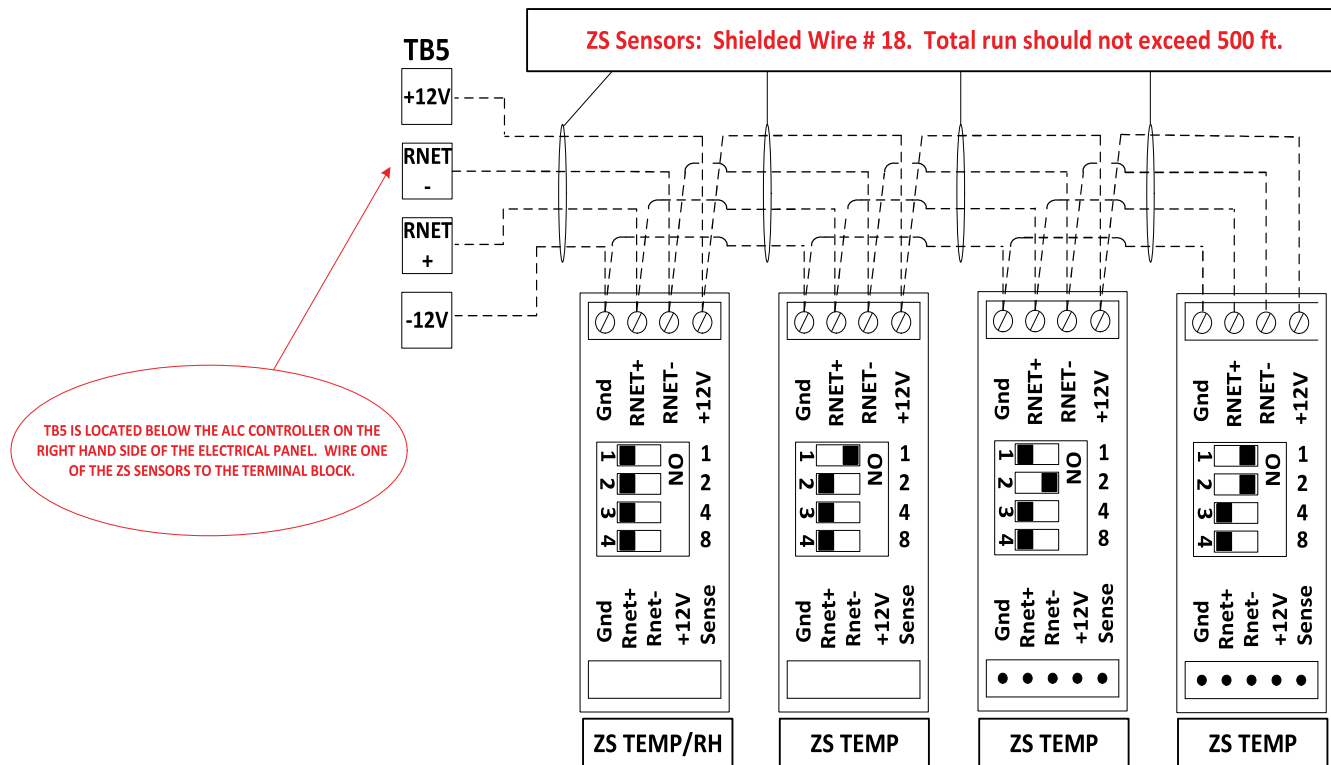

Fig. 67 — ZS Sensors —Wiring and Set Up
See Fig. 67.
- Standard programming can accept up to (5) ZS sensors.
- Room Sensors must be wired in a "daisy chain" configuration. See Fig. 67.